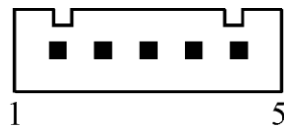

Fig. 4-3
- 5-pin socket of serial panel is shown in Fig. 4-3